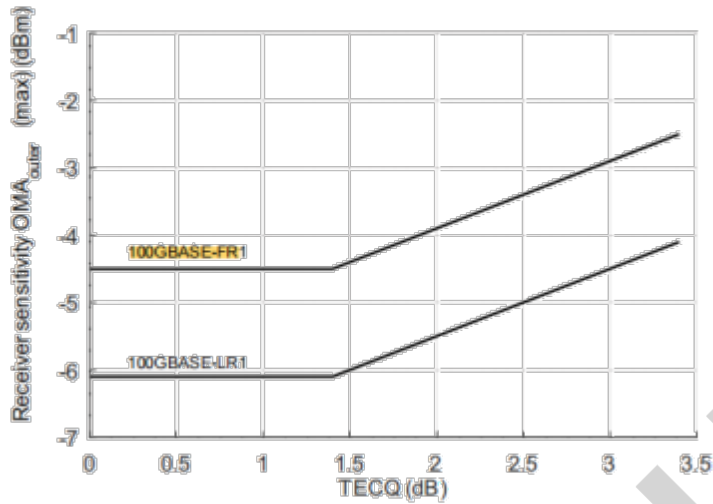

Figure 1. Illustration of Receiver Sensitivity Mask for 100GBASE-FR1
- Receiver sensitivity (OMA_{outer}) is informative and is defined for a transmitter with a value of SECQ up to 3.4 dB. Receiver sensitivity should meet Equation (1), which is illustrated in Figure 1.